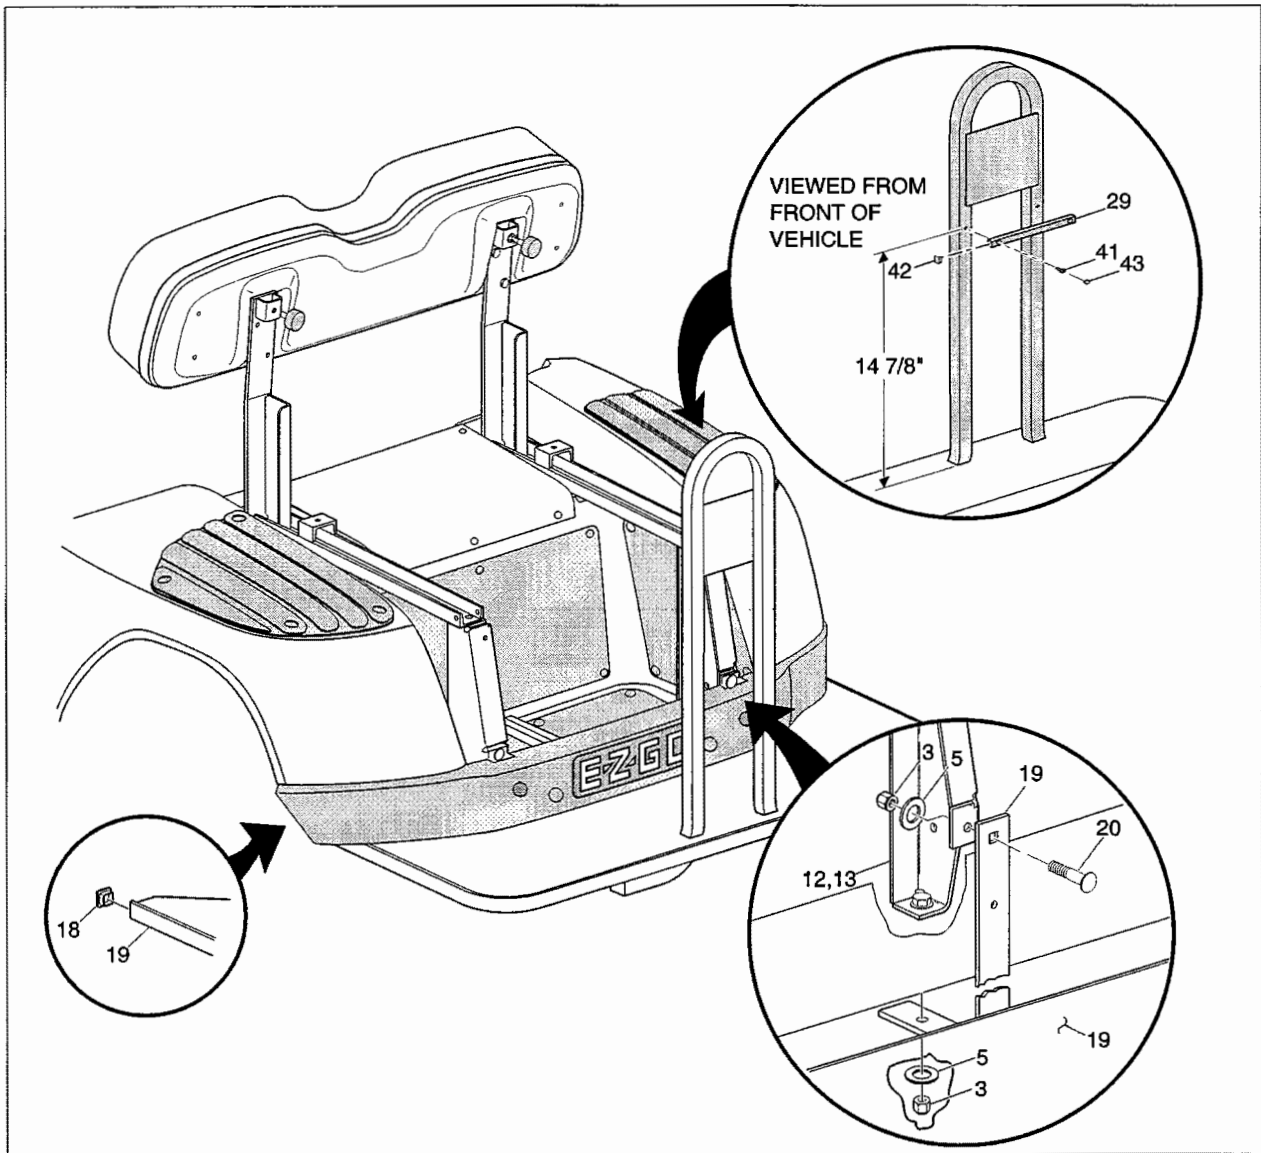

Fig. 5
1. Before attaching foot rest (item 19), mark hole centers as dimensioned and attach support tube (item 29) to foot rest with self drilling and tapping screws (item 41). Insert hole plugs (item 43) and end plugs (item 42) in support tube. (See Fig. 5)
2. Install the end plugs (item 18) into the tubing ends of the foot rest (item 19).
3. Remove the nut (item 3) and washer (item 5) (previously installed) from the underside of the frame. (See Fig. 5)
- Place the foot rest (item 19) up against the bottom of bumper aligning the bolts that were previously installed in the bagwell with the holes in the horizontal part of the foot rest bracket. Be sure the vertical part of the foot rest bracket is inserted between the bumper and the vertical frame supports. See Detail in Fig. 5
- Insert carriage bolt (item 20) through the hole in bracket and vertical support and secure with washer (item 5) and nut (item 3). (See Fig. 5)
- Tighten the nut (item 3) on the underside of the frame to 21 - 25 ft. lbs. torque. (See Fig. 5)